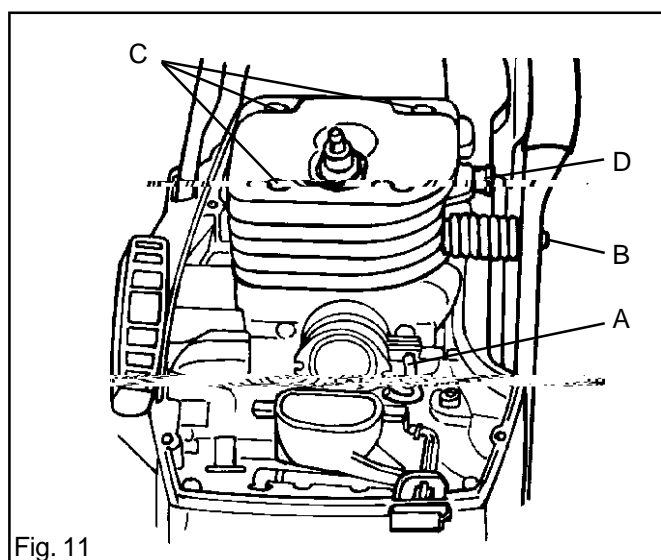

Fig. 11
4. Fit the decompression valve (D). See fig. 11. Tighten it to 15 Nm.
8. Guide up the cylinder base gasket with the four bolts (C) and tighten them alternately. Tighten them finally to 10 Nm. See fig. 11.
9. Fit the anti-vibration spring (B) on the cylinder. See fig. 11. Tighten the bolt to 10 Nm.